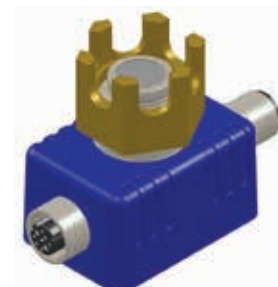

FIGURE 5-18
- After securing bracket, remove retaining nut from detector head and slide detector in bracket. Confirm detector has male/female connectors in correct position for connection to detection circuit cable. See Figure 5-18.